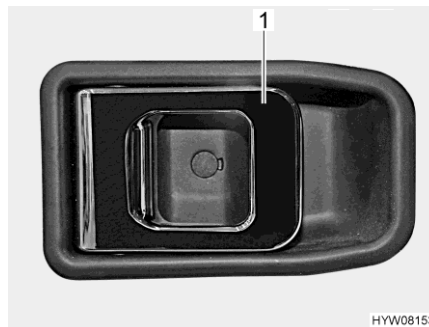

Fig. 31 Door lock (driver's door, inside)
- Opening:** ■ Pull on the handle (Fig. 31,1). The door lock is unlatched or opened.
- Locking:** ■ Push the handle (Fig. 31,1). The door lock is locked.